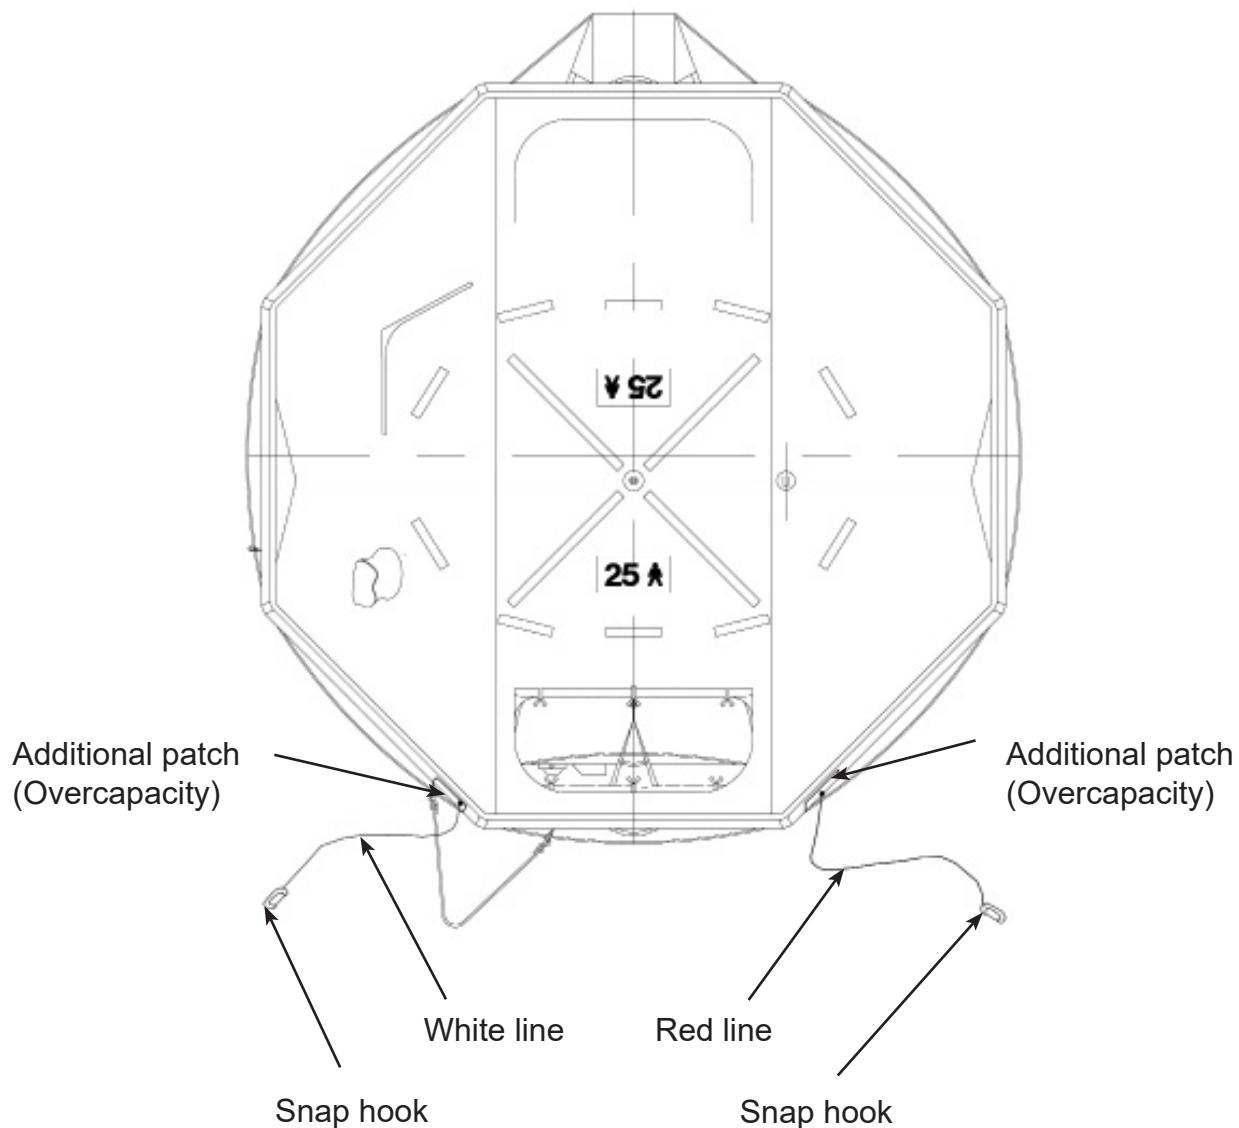

FIGURE A6-1
- 8.2.1 The Overcapacity Liferaft is fitted with two additional loop patches in the locations shown in FIGURE A6-1. With the liferaft laid out flat, the red bowsing line is secured to the patch on the right, when viewing from the doorway closest to the inflation cylinders and the white/natural-coloured bowsing line is secured to the left. The lines are secured using a taped bowline knot. The snap hooks are fitted to the end of each line using a taped bowline knot.